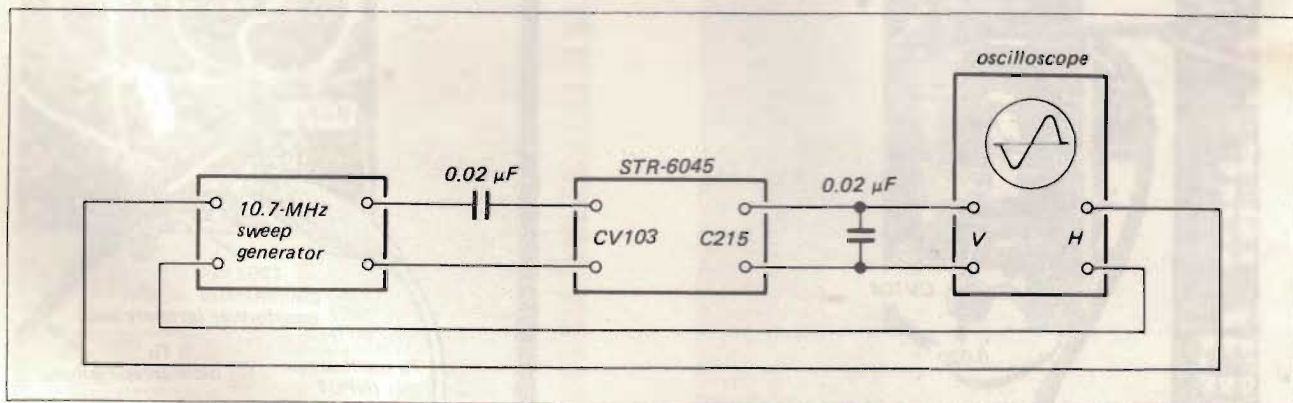

Fig. 3-6 Test setup for discriminator alignment by sweep generator
1. With the equipment connected as shown in Fig. 3-6, set the sweep generator's controls as follows:
- FUNCTION switch (1) . . . FUNCTION (2)
- FUNCTION switch (2) . . . FM AUTO STEREO